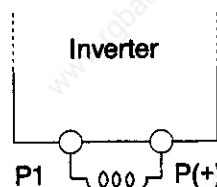

Fig. 6-1-1
- ③ Do not start or stop the inverter by turning the main power switch on or off. Use the control circuit terminals FWD and REV or the RUN and STOP keys on the keypad panel to start and stop the inverter.
- ④ Do not connect the inverter to a single-phase power supply. If a single-phase power supply must be used, use an inverter dedicated for single-phase.
(2) Inverter output terminals [U, V, W]
- ① Connect a 3-phase motor to the inverter output terminals U, V and W in correct order. If the operation commands do not match the direction of motor rotation, interchange any two of the U, V, W connections.
(3) DC reactor terminals [P1, P(+)]
- ① These terminals are used to connect an optional power factor correcting DC reactor. These terminals are connected by a short-circuiting conductor at the time of shipment from the factory, so remove this conductor before connecting the DC reactor. (Fig. 6-1-1)
(4) External braking resistor terminals [P(+), DB] (7.5 kW or less)